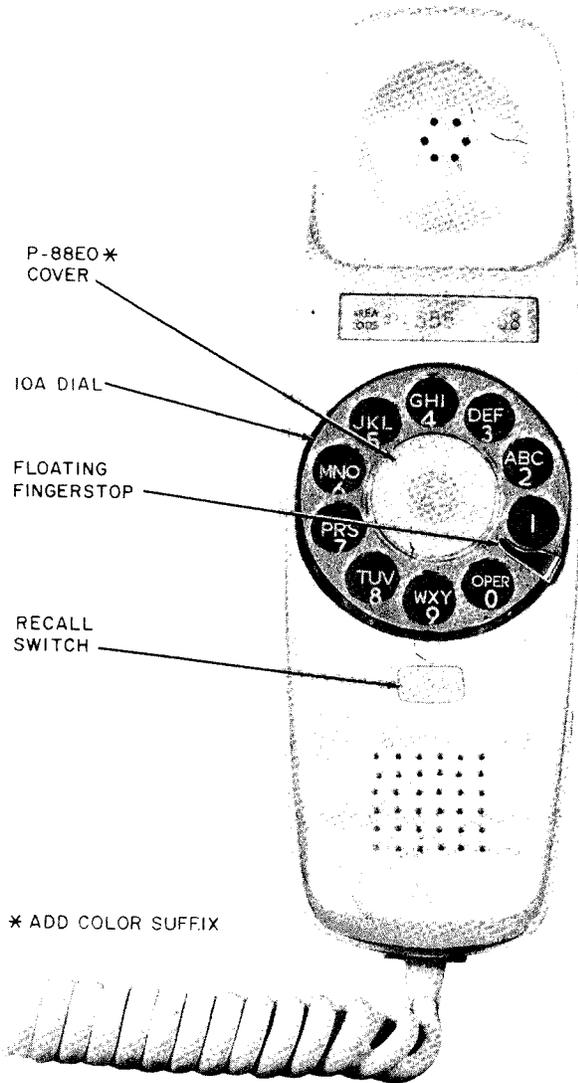

Fig. 1—220A Hand Telephone Set
2.01 The 220A and 1220A hand telephone sets (Fig. 1 and 2) are dial-in-handset type telephone sets. These sets are complete telephones except for the ringer and line switch which are housed in a telephone base.
(a) **Recall Switch (Fig. 1 and 2):** Point out recall switch and explain advantages of switch. Example: If a person receives busy